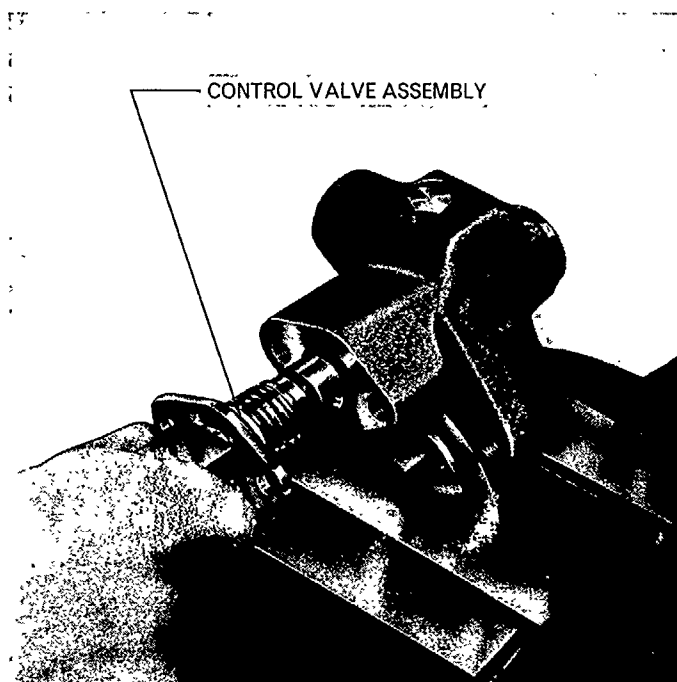

Figure 64
3. Install the control valve spool assembly in the endplate, Figure 64, taking care not to damage the 'O' ring on the spool. Install the two control valve retaining bolts.